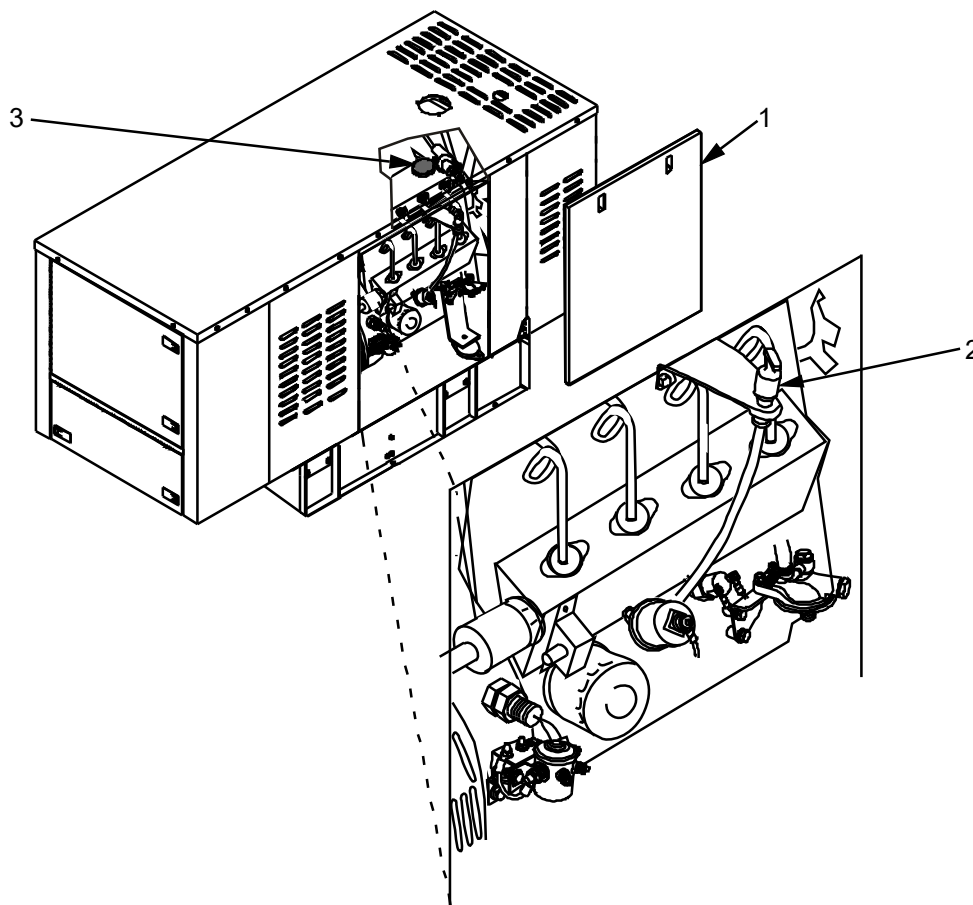

Figure 1. Oil Fill Tube and Dip Stick on Engine Location.
2. Remove and retain rear Genset access panel (Figure 1, Item 1).
3. Check oil level with the dipstick (Figure 1, Item 2). If oil level is low, proceed to next step. If oil level is correct insert dipstick (Figure 1, Item 2) and go to step 10.
4. Remove and retain oil filler cap (Figure 1, Item 3).
5. Add oil to engine at filler cap (Figure 1, Item 3) and re-check the oil level.
6. Insert dipstick and install oil filler cap (Figure 1, Item 3).
9. Check oil level with the dipstick (Figure 1, Item 2). If oil level is still low, repeat steps 4 through 7. If dipstick (Figure 1, Item 2) indicates proper oil level, re-insert the dipstick (Figure 1, Item 2) and verify that oil filler cap (Figure 1, Item 3) is secure.
10. Wipe off any oil that has spilled. Install and latch rear access panel (Figure 1, Item 1).